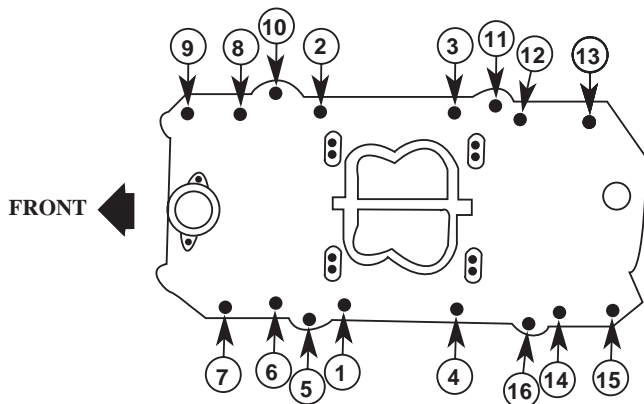

Figure 1 - Intake Manifold Bolt Torque Sequence
- 5) **WARNING:** *There is no gasket support for the manifold on the four bolt holes which are numbered 5, 10, 11, and 16 in Figure 1. Damage to the manifold will occur if these four bolts are over-tightened. Hand tighten them with a 6" box-end wrench. Do not use a torque wrench.* Torque all of the remaining manifold bolts in two steps by the sequence shown in Figure 1 to 25 ft/lbs. For ease of installation, we recommend using Edelbrock Manifold Bolt & Washer Kit #8564.